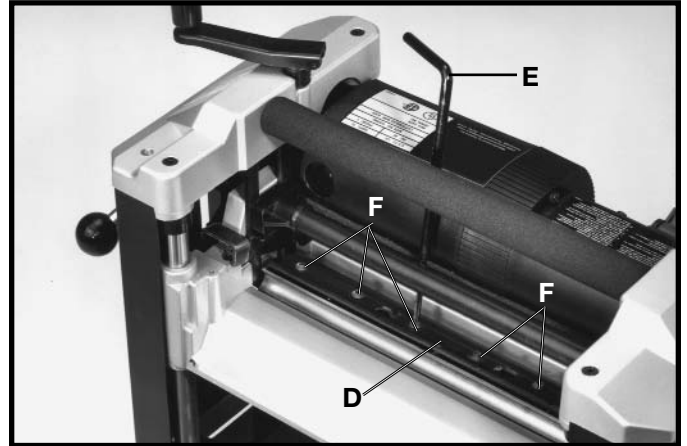

Fig. 30
7. Using the supplied wrench (E) Fig. 30, unscrew the six screws, five of which are shown at (F), only enough until locking bar (D) separates from knife, allowing knife to be removed.